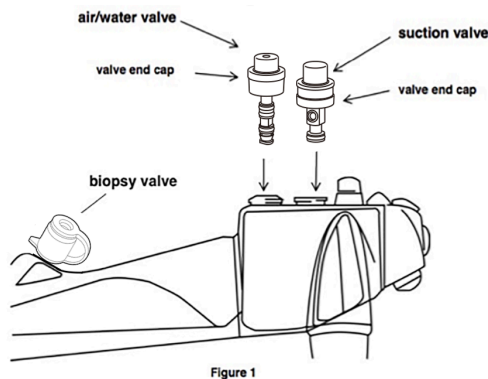

Figure 1
5. Insert the suction valve into suction cylinder of a Pentax® endoscope (see Figure 1).
10. Insert the air/water valve into the air/water cylinder of a Pentax® endoscope (see Figure 1).
14. Securely place the biopsy valve onto the biopsy/suction channel opening of a Pentax® endoscope (See Figure 1).